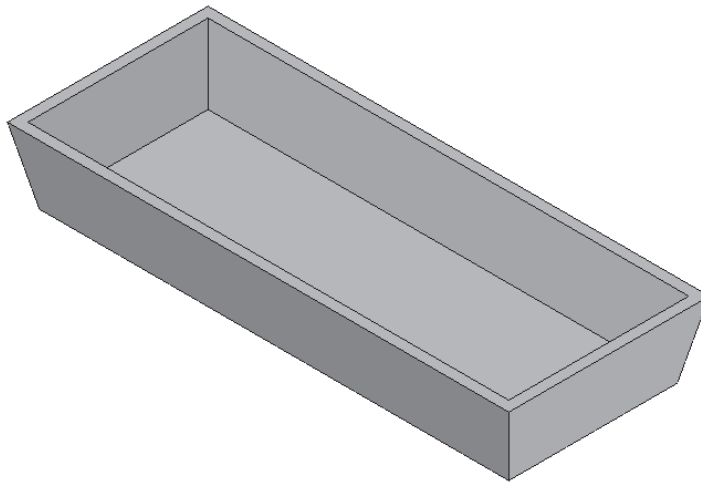

Figure 7-69 Model after adding the thin wall feature
- Add a thin wall feature to the model, refer to Figure 7-69.
4. Choose the **Preview** button and then choose **Finish** to create the thin wall feature. The model, after creating the thin wall feature, is shown in Figure 7-69.